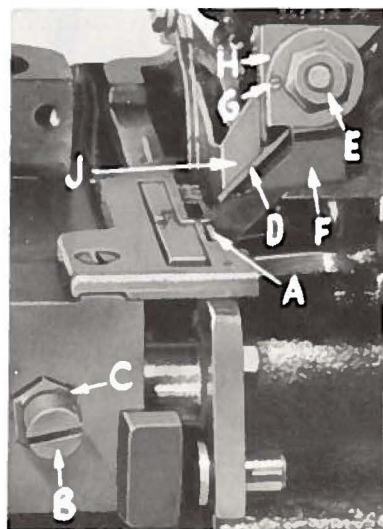

Fig. 10
Replace lower knife holder assembly. Lower knife (A, Fig. 10) should be set with cutting edge flush with throat plate surface. Adjustments are made with hexagonal head screw which holds lower knife. Lower knife is spring pressed against upper knife, so no lateral adjustment is necessary when width of trim is changed.
Replace upper knife assembly. Clamp upper knife (D, Fig. 10) in position, setting nut (E) to hold clamp (F) in its most clockwise position against upper knife. At bottom of its stroke, front cutting edge of upper knife should extend not less than 1/64 inch below cutting edge of lower knife. The chain guard (J) should be set down against the upper knife and slightly back from the cutting edge.